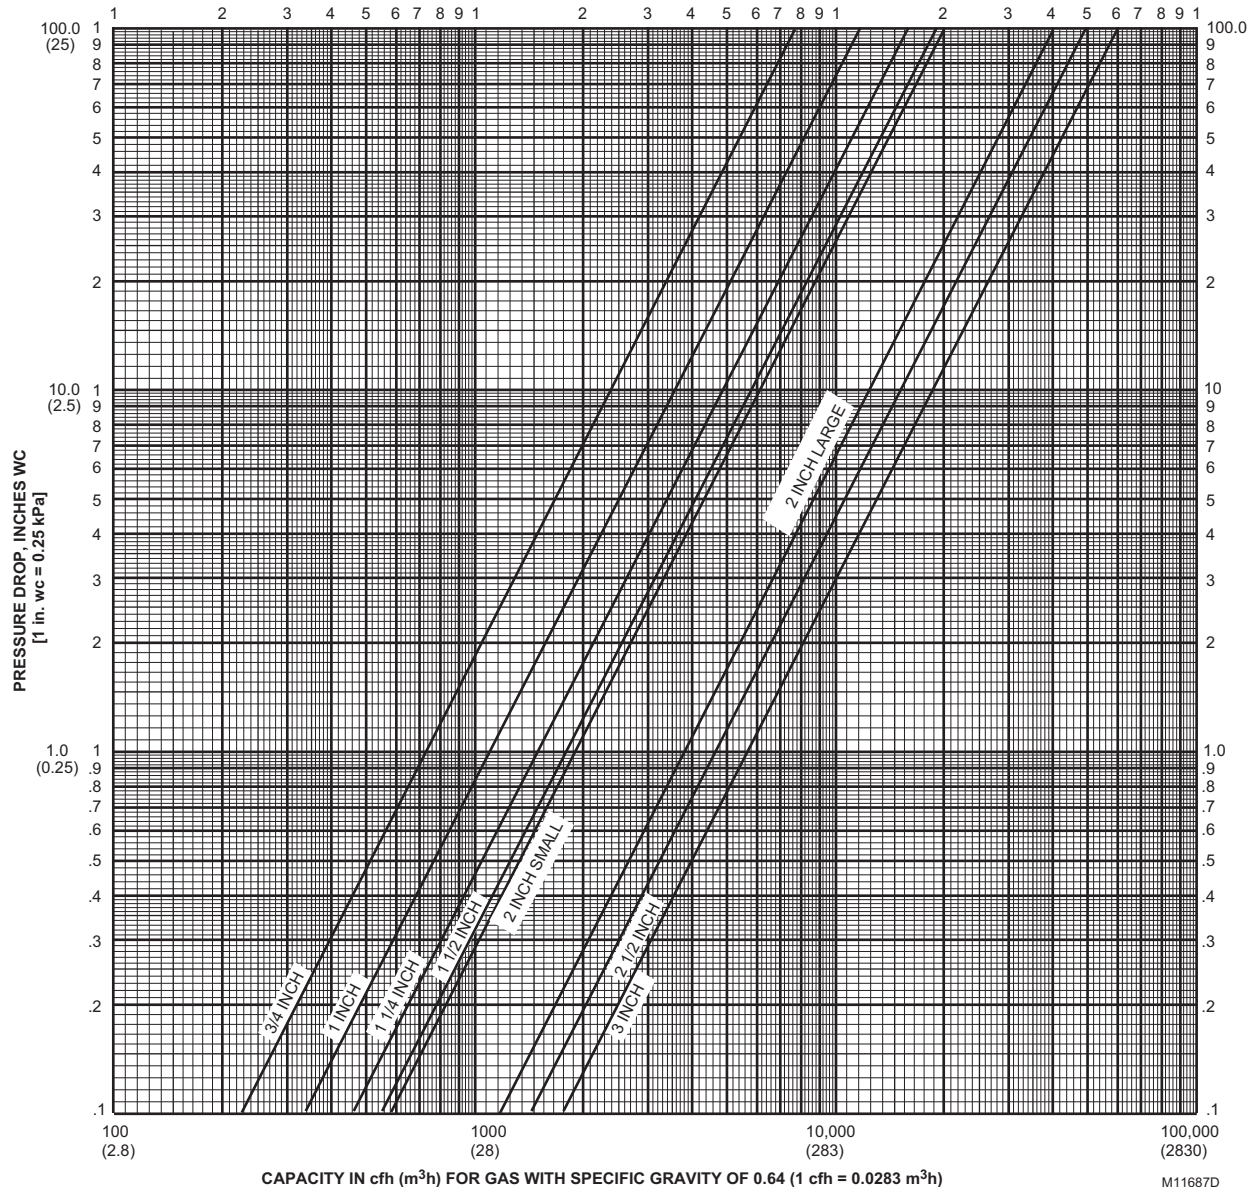

Fig. 4. Flow curves for V5097 valves.
5. Use the cfh capacity (for 0.64 or the corrected cfh from step 4) for determining the gas valve size in Fig. 4.
6. Determine the maximum pressure drop across the valve and draw a horizontal line at this pressure in Fig. 4.
7. Draw a vertical line in Fig. 4 at the capacity (cfh) previously determined. Use the corrected capacity for a gas with a specific gravity other than 0.64.
8. Use the valve size at the intersection of the horizontal and vertical lines. If the intersection is between valve sizes, use the next larger valve size in Fig. 4.
Applying this number to Fig. 4, assuming a 1 in. wc pressure drop, use a 2 in. (large body) V5097 Valve for that flow (step 8 of Gas Valve Sizing).